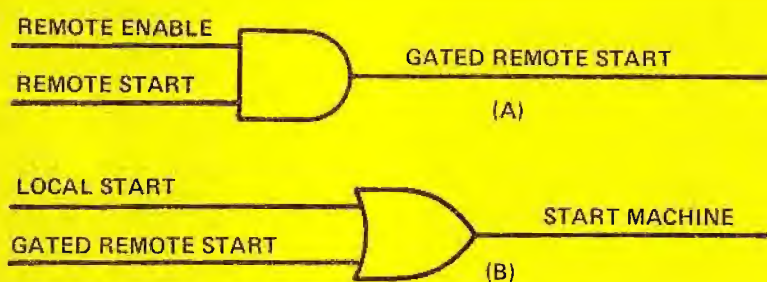

Figure 7. Typical Broadcast Machine-Control Applications of Logic Elements.
In broadcast studio equipment, machine-control circuits provide numerous examples of both AND and OR functions. For instance, Figure 7 (A) shows how an AND gate might be used to enable or inhibit the use of a machine START button on a remote control panel, and Figure 7 (B) shows how a machine (such as a film projector or a tape recorder) might be controlled from either of two locations through an OR gate.